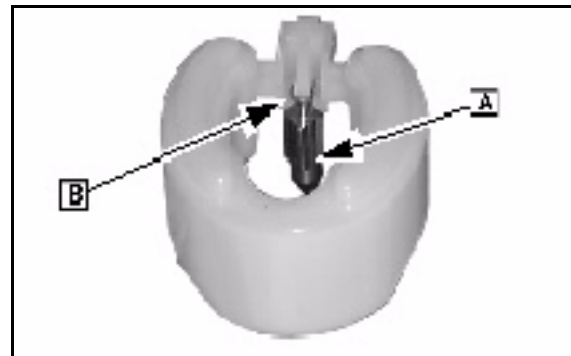

Fig. 120
10. Insert the inlet needle (A) into the slot on the float ([B] Fig. 120).